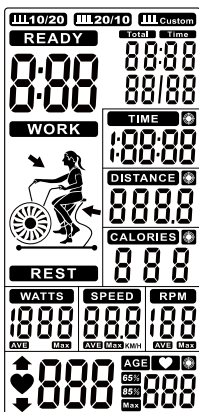
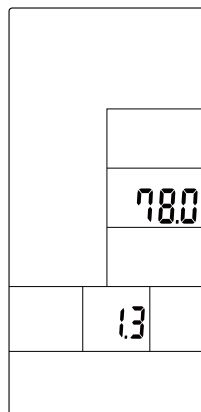
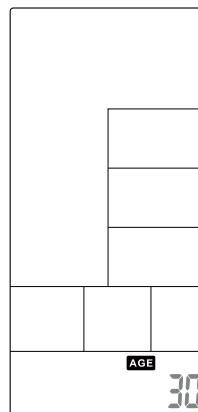

Figure 1
Figure 2
Figure 3
- When POWER ON, LCD will full display 2s (Figure 1) with long beep sound, then display wheel diameter 1s in DIST area (Figure 2). Then enter into AGE setting mode, the AGE flashing to be set (Figure 3). Press the UP/DOWN to set age and press ENTER to confirm then go to Standby mode.